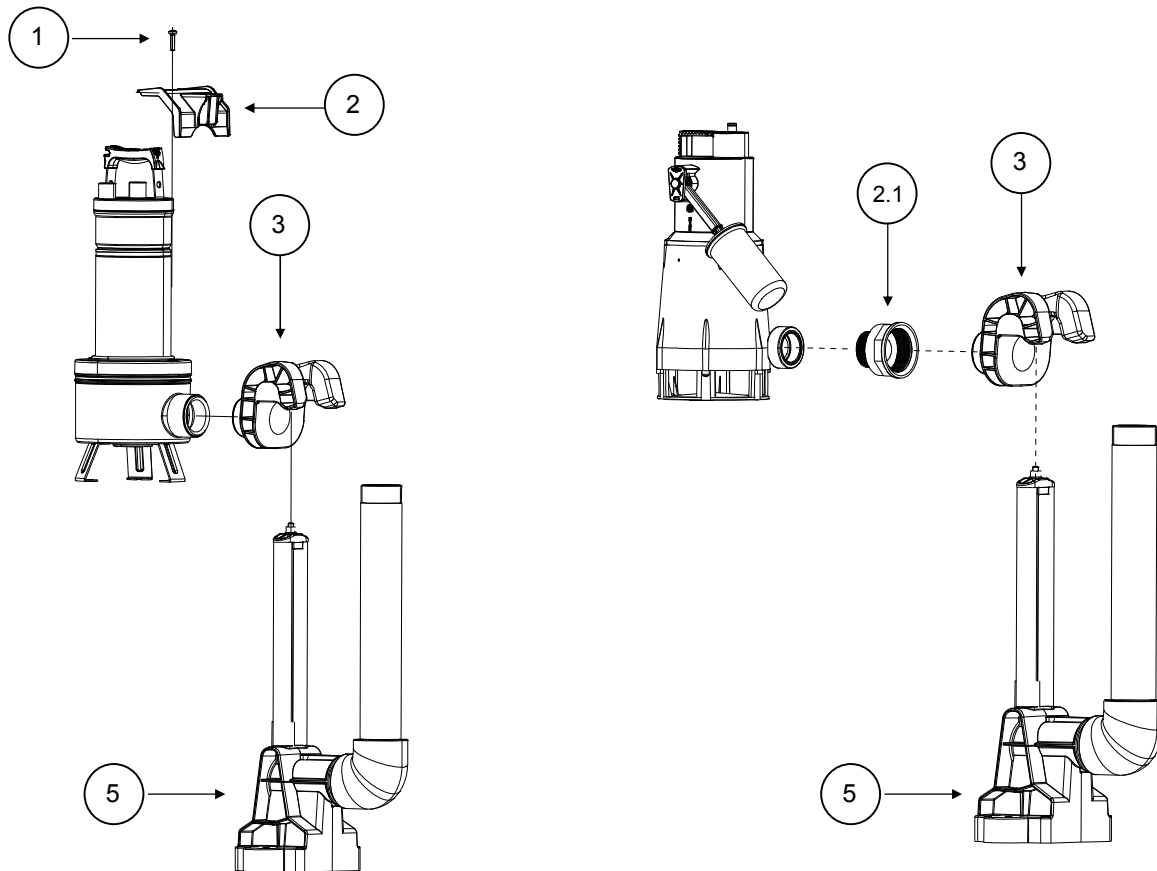

Fig. 7
- B. Extract the slide (3) from the coupling foot (5)
- C. For FEKA 600: screw the special 2" F-1"1/4 M coupling (2.1), onto the lifting slide (3), and of the pump (see fig. 7)
- the slide (3) onto the pump body (see fig. 7)
- Remove the screw (1) from the pump body
- Assemble the anti-rotation bracket (2) on the slide and then re-tighten the screw (1)